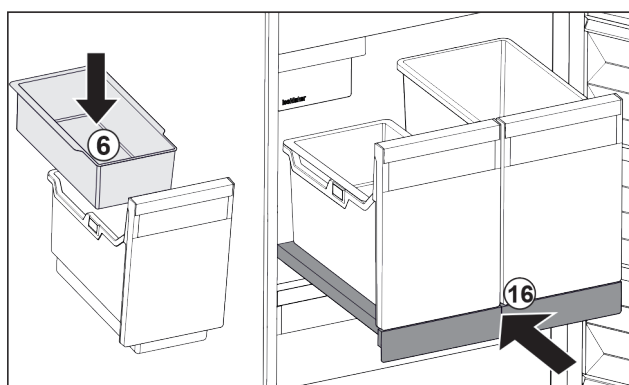

Fig. 107
- ▶ Insert hang-on tray *Fig. 107 (6)* for ice cubes.
- ▶ Slide in the pull-out board with (IceTower) container. *Fig. 107 (16)*